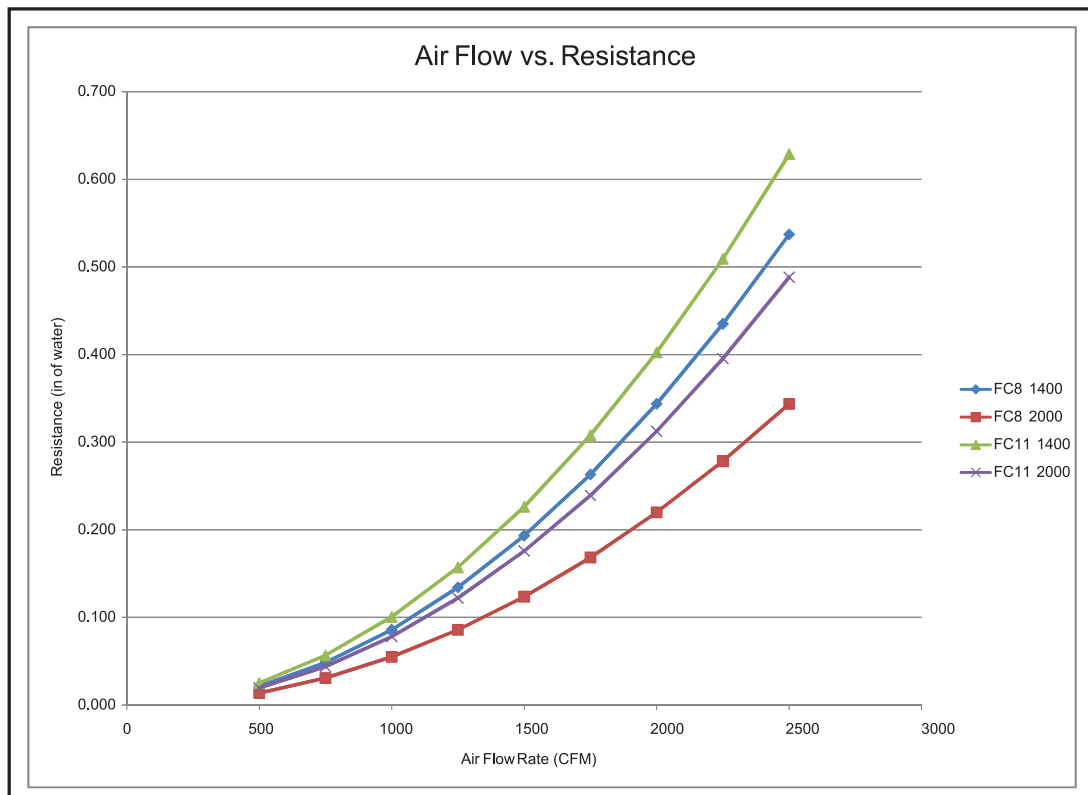

Figure 6
4. Check the flow capacity and pressure drop (Figure 6) to determine the filter is properly sized.